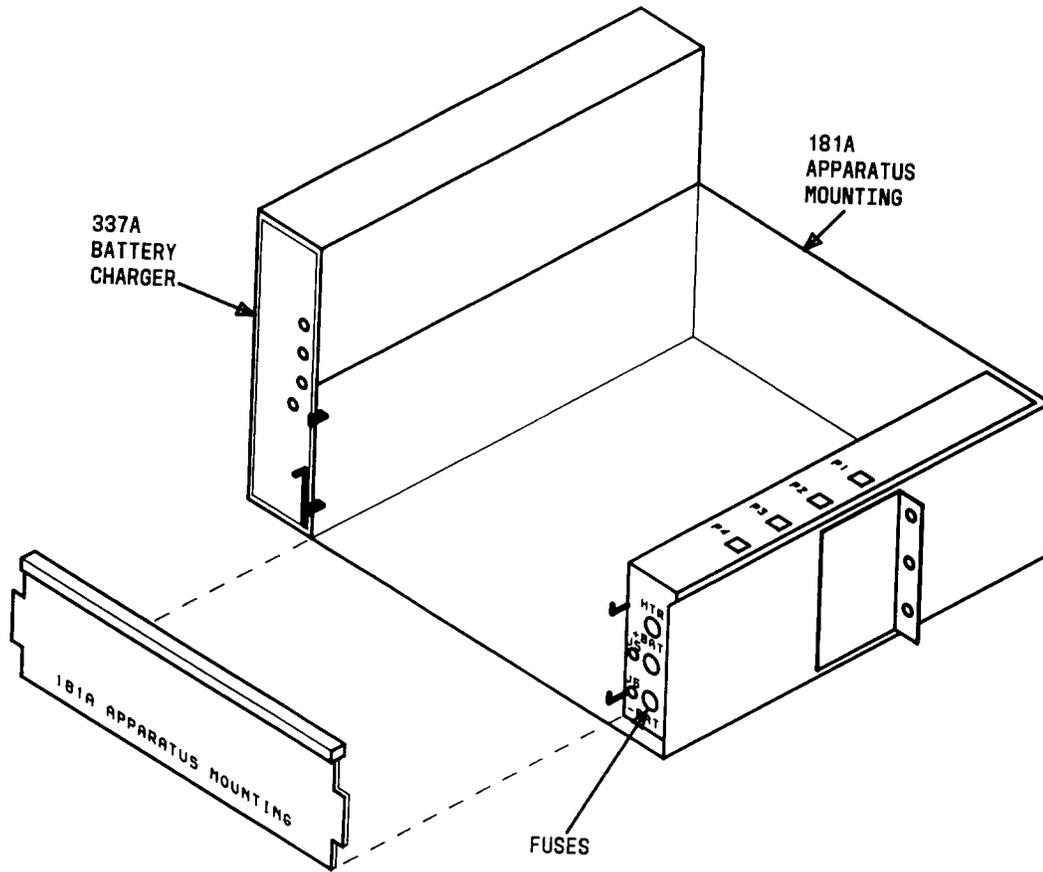

Fig. 2—Battery Shelf
23. At front of battery shelf, remove front cover by lifting cover up and out (Figure 2).